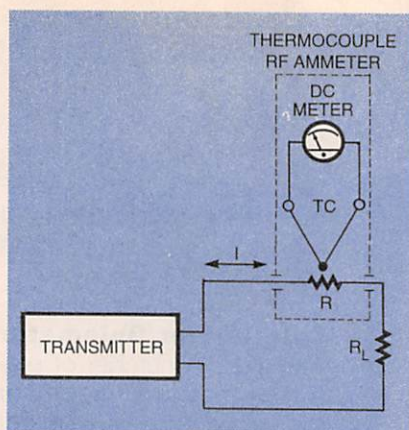

Fig. 1. The thermocouple RF ammeter relies on heating a very low value resistive heating element ( $R$ ) to measure RF power.
**RF Ammeter Methods.** The thermocouple RF ammeter (see Fig. 1) is an inherently rms-reading device because it relies on heating a very low value resistive heating element (R). The temperature of the heating element is measured by a thermocouple device (TC in Fig. 1), which produces a voltage proportional to the temperature of the thermocouple junction. A DC voltmeter is used